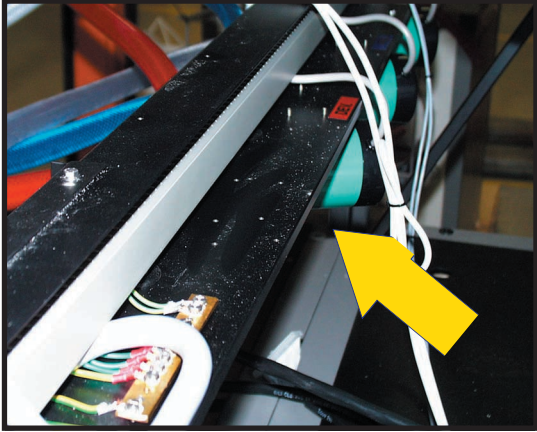

Fig. 1.
1) Mount the new pump beside the old DEV Pump on the pumpbridge with four M4 bolts, as shown at Fig. 1 & 2.